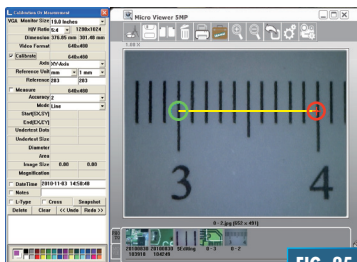

FIG. 25
6. Release the right button of the mouse, and the calibration is done. (**Fig. 25**).